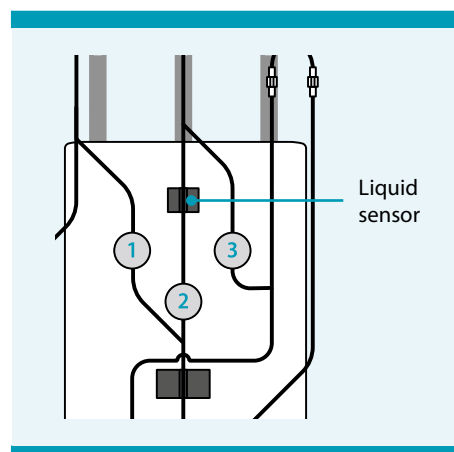

Figure 7.15: Tubing in valves
2. Insert the tubing above valve no. 2 into the liquid sensor (see Figure 7.15).